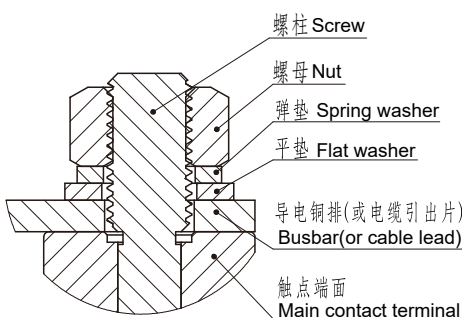

图1(Fig1)
- 当产品使用1个及多个导电铜排连接时，请确保导电铜排与触点端面紧密贴合（多个铜排需确保大电流的导电铜排最贴近触点端面，小电流的导电铜排其次），然后是平垫圈、弹簧垫圈、螺母。不正确的连接顺序可能造成严重过热，参考下图1：
When the product is connected with one or more conductive copper bars, please ensure that the conductive busbars closely fit the contact terminal surface (The conductive copper bars with high current must be closest to the contact terminal surface if there are multiple copper bars and then conductive busbars with low current), followed by flat washers, spring washers and screws. Incorrect connection sequence perhaps give rise to severe overheating. Refer to Figure 1 as follows: